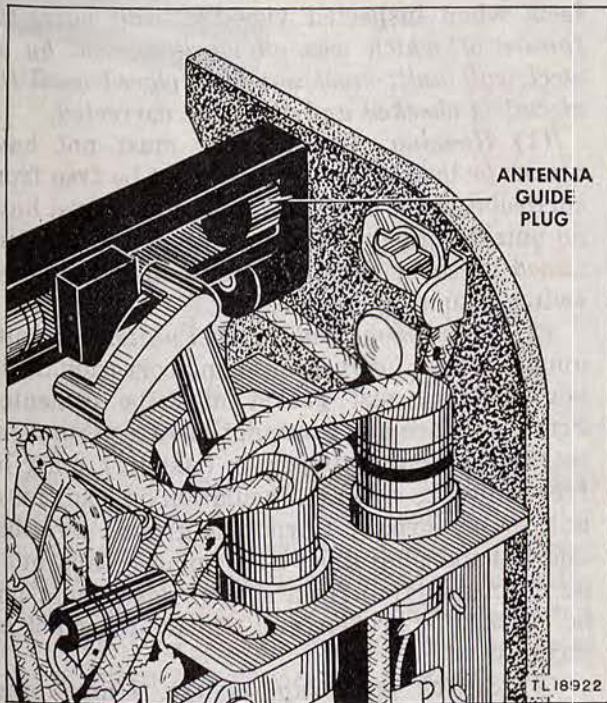

Figure 24. Use of antenna guide plug, Radio Receiver and Transmitter BC-611-(*).
(2) *Antenna and power switch.* The antenna guide must not be cracked or broken. The antenna guide installed on a chassis using a switch with a short throw, must have a bakelite plug securely cemented in place as shown in figure 24. Do not use a plug with a long throw switch.